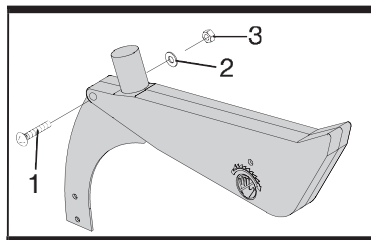

Fig 6
- 1) Place the blade guard on the riving blade and secure it with the bolt (1), flat washer (2), and nut (3) (See fig. 6).